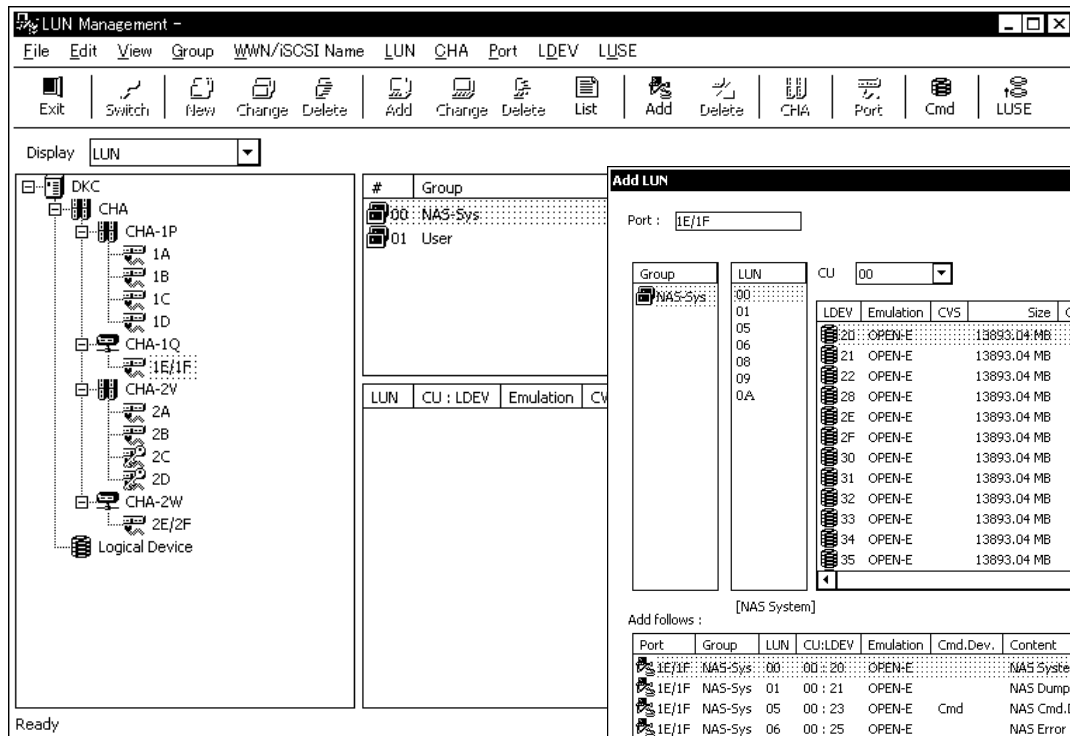

Figure 11.1.1 Main Window
When the port of “NAS” in the tree view is selected (CL) and the Display is set as “LUN”, “NAS-Sys” of the Group#00 and “User” of the Group#01 are set with default in the upper right list. Select “NAS-Sys” of the Group#00. (In an example shown in Figure 11.1.1, select the NAS port, 1E/1F from the tree diagram.)
- ① Select (CL) “NAS-Sys” of the Group#00 from the upper right list.
- ② Select (DR) [Add...] from the [LUN] menu in the Main window (Figure 11.1.1).
- ④ When the [OK] button is selected, items displayed in the “Add follows” list are newly registered and the window is returned to the Main window (Figure 11.1.1).
Among the System LUNs for the other CHNs, those that show the own PCB are not defined. (In the example shown in Figure 11.1.1, the LUN#0C and LUN#1C are not defined for the NAS-Sys group of the NAS (1E/1F) port.)